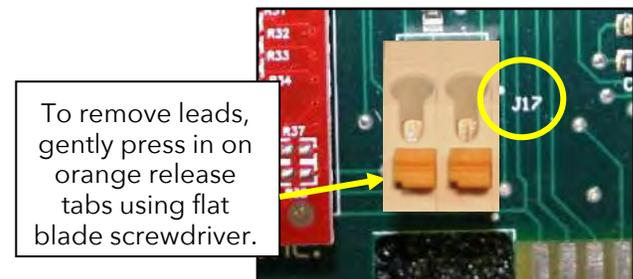

Figure 3. TERMINAL BLOCK J17.
9. From circuit board terminal block J17, carefully remove the two yellow leads coming from the humidity sensor. Refer to Figure 3. Use a flat blade screwdriver to gently press in on either orange release tab, then gently remove the lead from the terminal. Repeat for the second lead.